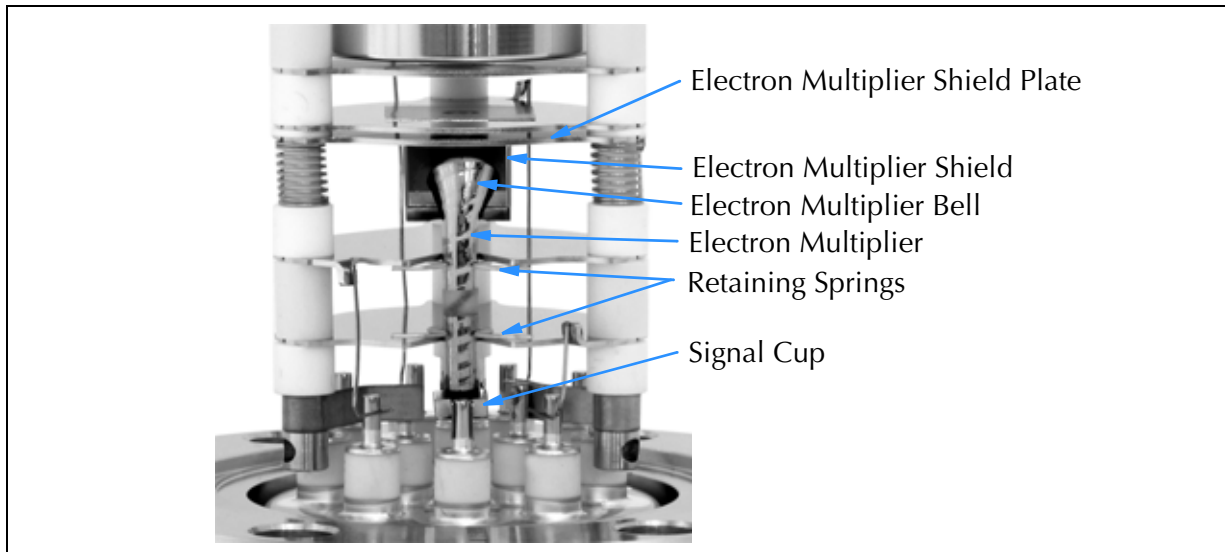
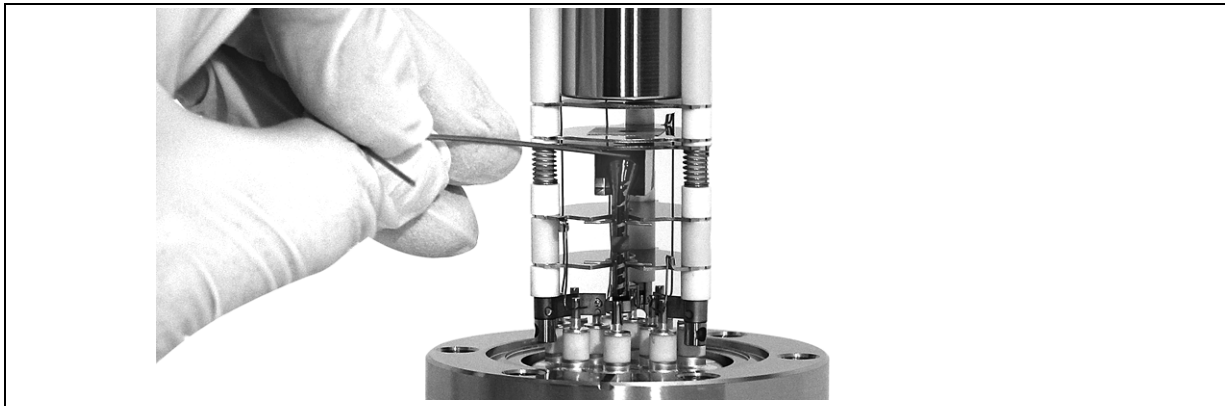
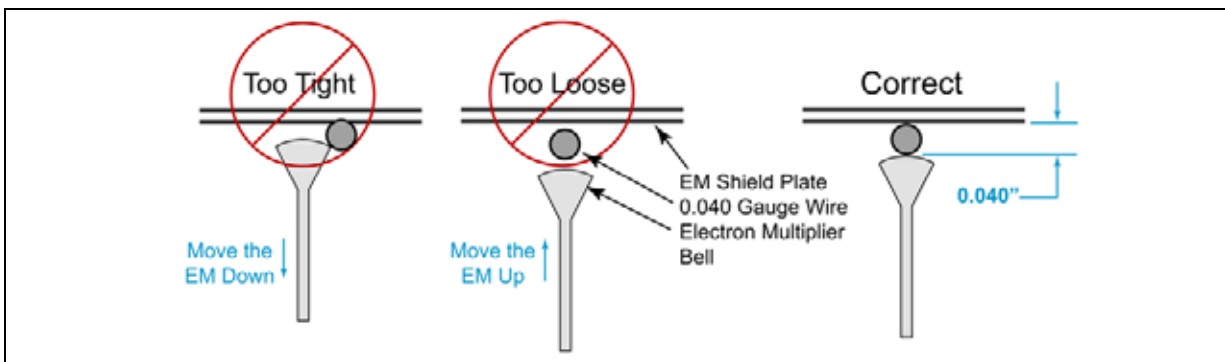

Figure 7-10 Close-up of the Electron Multiplier
Figure 7-12 Electron Multiplier Adjustment
Figure 7-13 Proper Electron Multiplier Adjustment Setting
7. Use the 0.040 gauge wire to adjust the EM to the proper location as illustrated in Figure 7-12 and Figure 7-13. The gauge wire can also be used if slight rotational adjustment is required to make sure the bell of the EM is facing toward the center of the MS Gauge. To do so, slide the wire between the bell and the sides of the EM Shield (see Figure 7-10).